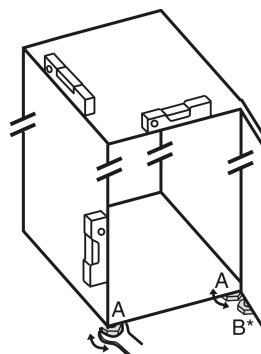

Fig. 27
- Unscrew the adjustable feet Fig. 27 (A) using the enclosed open-end spanner and a spirit level until the appliance is firmly aligned and level.
- Unscrew the adjustable foot Fig. 27 (B) on the swap bearing block with the enclosed open-end spanner until it rests on the floor.
- Turn the adjustable foot Fig. 27 (B) 90° further.